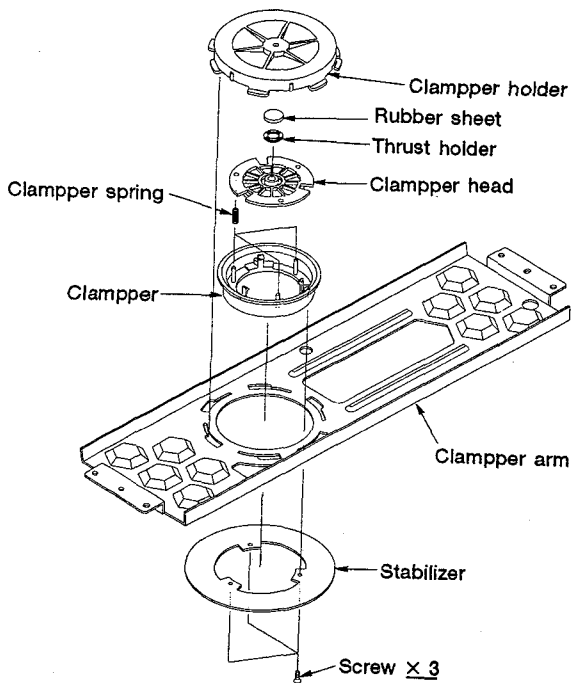

Fig. 2-6 Clamper unit
- ④ Clamper unit (Fig. 2-6)
④ Clamper Unit (Refer to Fig. 2-6)
While the servo-mechanism unit is ascending, the disc on the tray is lifted and the clasper waiting on top is pushed up. Clamping force is generated (Fig. 2-6) from the force of the clamp spring between the clasper and clasper head.